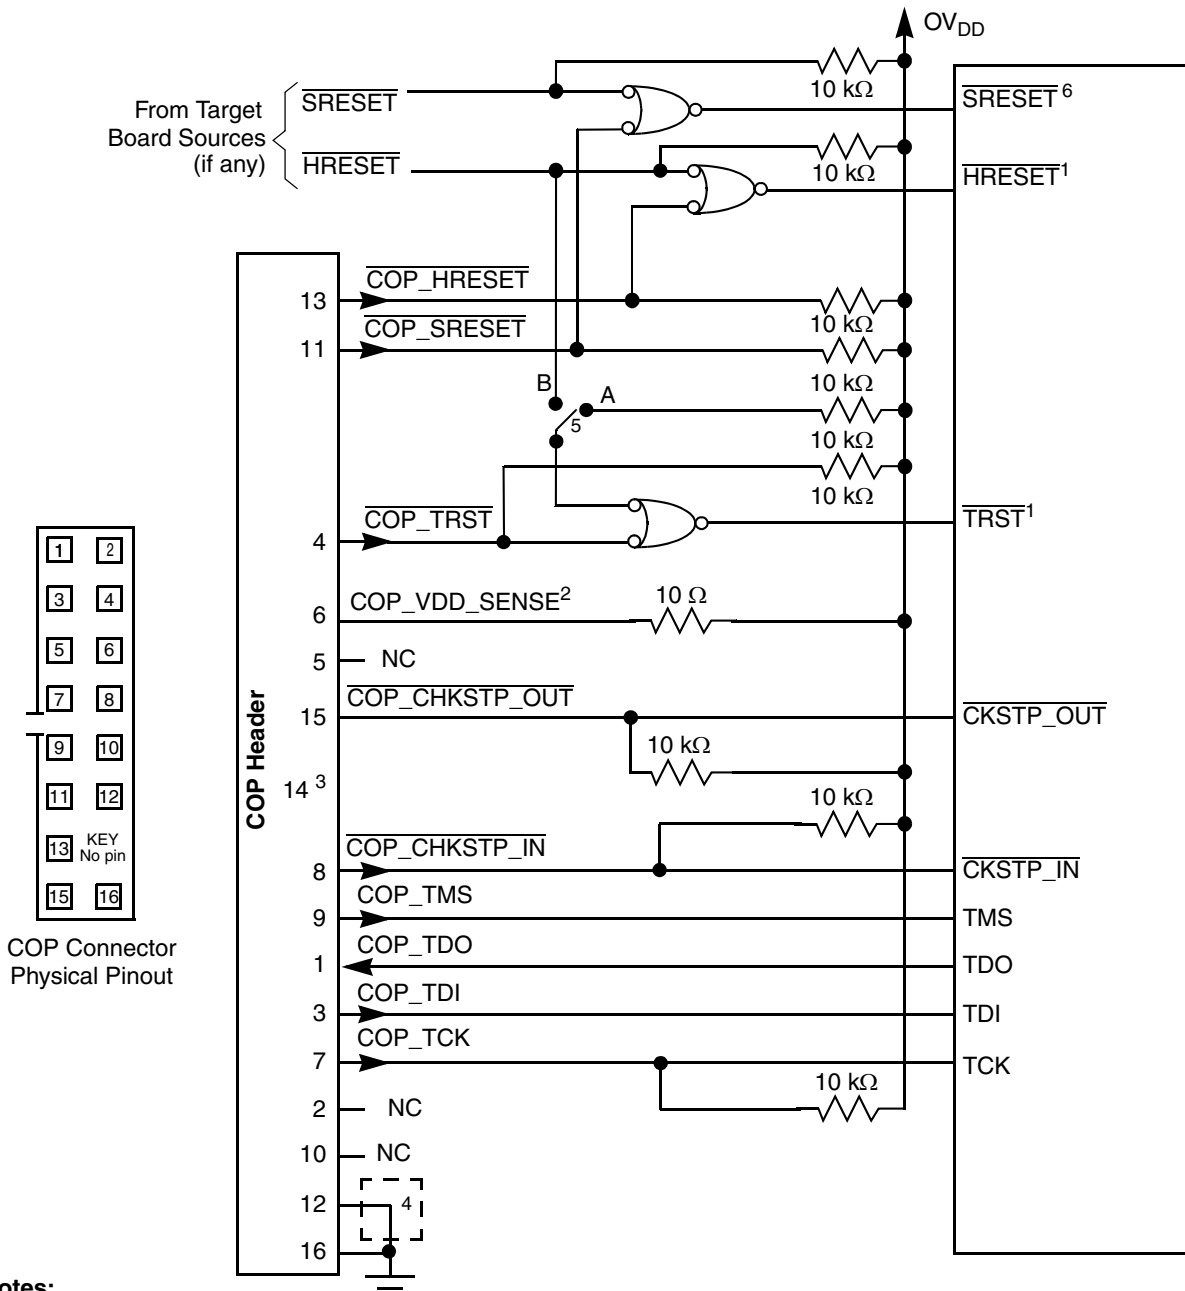

Figure 65. JTAG Interface Connection
Correct operation of the JTAG interface requires configuration of a group of system control pins as demonstrated in Figure 65. Care must be taken to ensure that these pins are maintained at a valid deasserted state under normal operating conditions as most have asynchronous behavior and spurious assertion will give unpredictable results.
The COP function of these processors allow a remote computer system (typically, a PC with dedicated hardware and debugging software) to access and control the internal operations of the processor. The COP interface connects primarily through the JTAG port of the processor, with some additional status monitoring signals. The COP port requires the ability to independently assert $\overline{\text{HRESET}}$ or $\overline{\text{TRST}}$ in order to fully control the processor. If the target system has independent reset sources, such as voltage monitors, watchdog timers, power supply failures, or push-button switches, then the COP reset signals must be merged into these signals with logic. The arrangement shown in Figure 65 allows the COP port to independently assert $\overline{\text{HRESET}}$ or $\overline{\text{TRST}}$, while ensuring that the target can drive $\overline{\text{HRESET}}$ as well.
- $\overline{\text{TRST}}$ should be tied to $\overline{\text{HRESET}}$ through a 0-k Ω isolation resistor so that it is asserted when the system reset signal ($\overline{\text{HRESET}}$) is asserted, ensuring that the JTAG scan chain is initialized during the power-on reset flow. Freescale recommends that the COP header be designed into the system as shown in Figure 65. If this is not possible, the isolation resistor will allow future access to $\overline{\text{TRST}}$ in case a JTAG interface may need to be wired onto the system in future debug situations.
Figure 65 shows the JTAG interface connection.